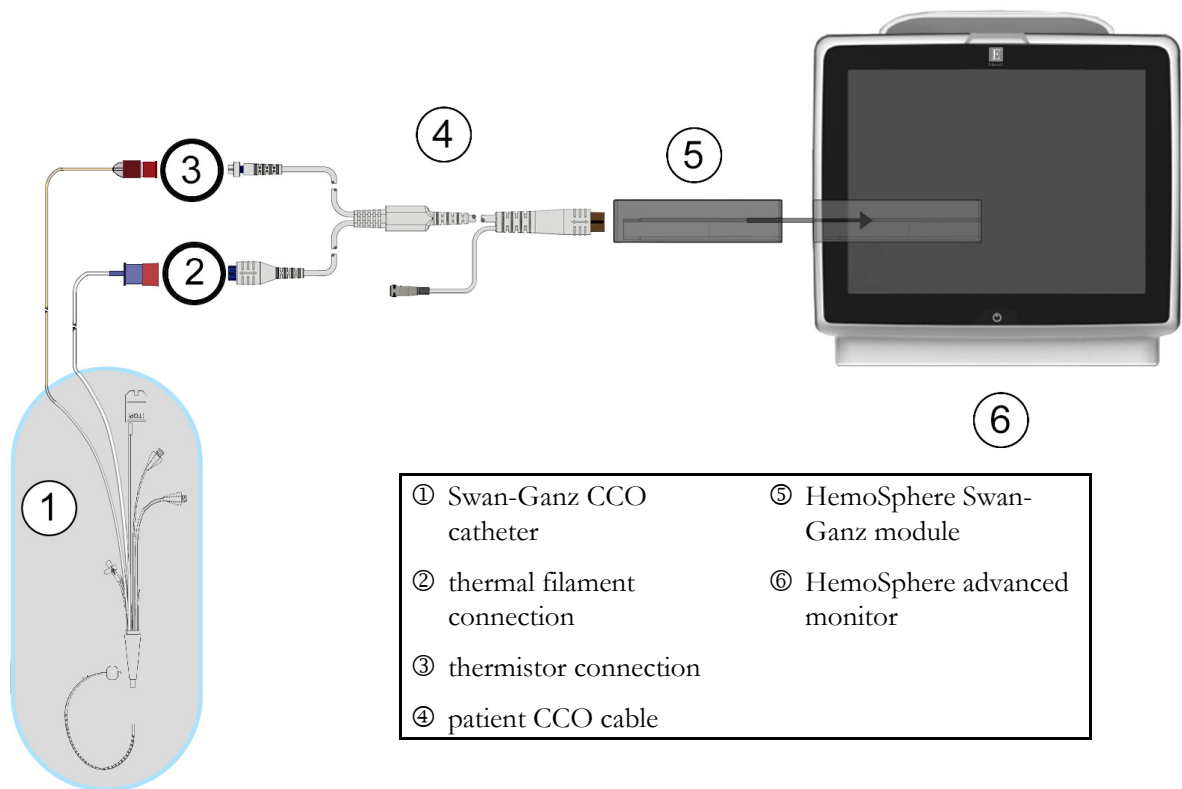

Figure 9-4 CO connection overview
- 2 Attach the catheter end of the patient cable to the thermistor and thermal filament connectors on the Swan-Ganz CCO catheter. These connections are emphasized as numbers ② and ③ in figure 9-4 on page 148.